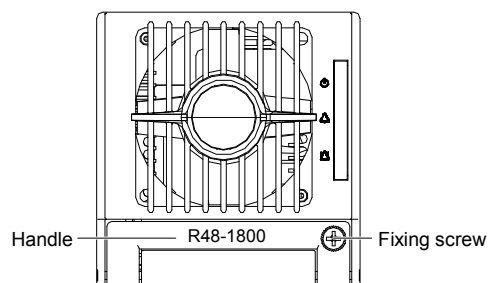

Figure 2-7 Handle position
1. Loosen the fixing screw of the handle with the cross point screwdriver, as shown in Figure 2-7. The handle will pop out automatically and the positioning pin under the rectifier will retract into the rectifier.